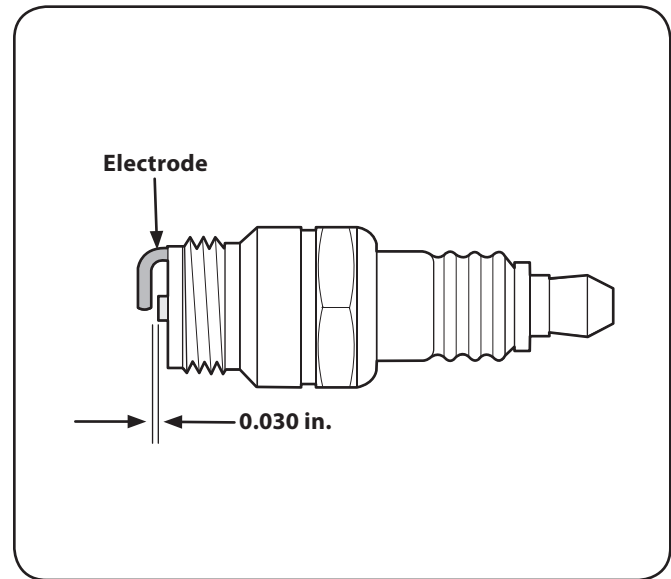

Figure 10-4
3. Measure the plug gap with a feeler gauge. Correct as necessary by bending side electrode. See Fig. 10-4. The gap should be set to 0.030 in.